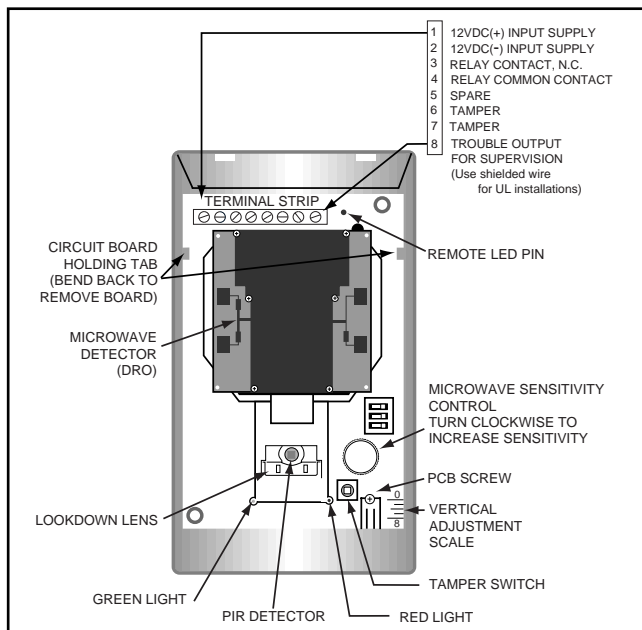

Figure 3. INTERIOR OF DETECTOR
2. Remove the circuit board from the base. Loosen the vertical adjustment screw, slide the circuit board up and spread PCB holding tabs as shown in Figure 3.
Bring all wires through the wire access slot at the top of the detector base near the terminal block and connect to the screw terminal. See Figure 3 for wiring details. Seal any openings in the base with foam or RTV (not supplied) to prevent drafts and insects from entering the unit. Apply power only after all connections have been made and are inspected.
A separate terminal pin is provided on the PCB that can be used to remotely control the LED. (See Figure 3.) If a 7-16VDC signal is applied to the terminal, all LED functions will be disabled, including alarm, Accu-Trak test mode, and supervision failures. To remotely enable the LED by removing the 7-16VDC signal, DIP Switch #3 must be set to OFF (LED enable).